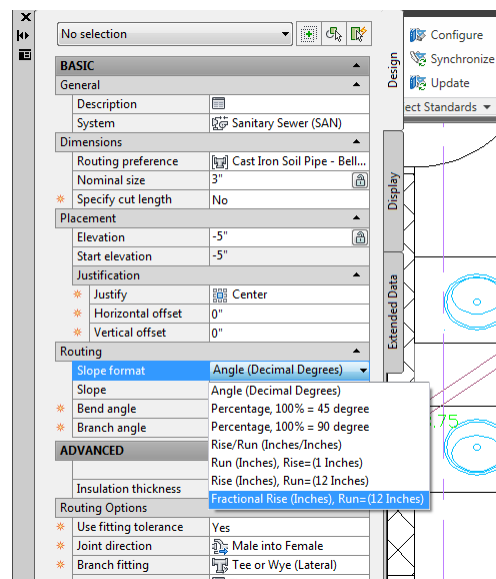

Figure 6.60
12. Change the Slope format to: **Fractional Rise (Inches), Run=(12 Inches)** (ex. ¼ where run is 12) (see Figure 6.60).